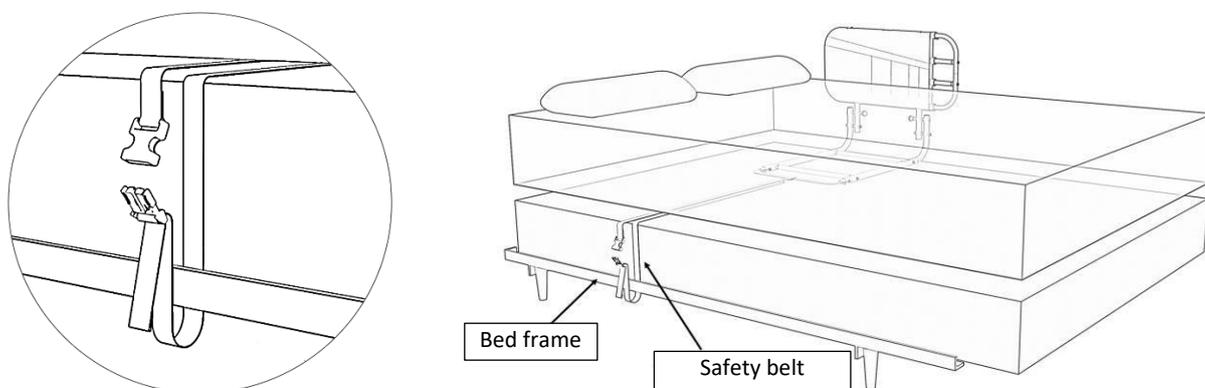

Figure 5
4.4 Open the lock of the SAFETY Harness and guide it around the bed frame / slatted frame. Put the lock back together and test whether the lock is firmly engaged. Then tighten the SAFETY Harness so that the bed side rail is tight against the side of the mattress as shown in Figure 5.